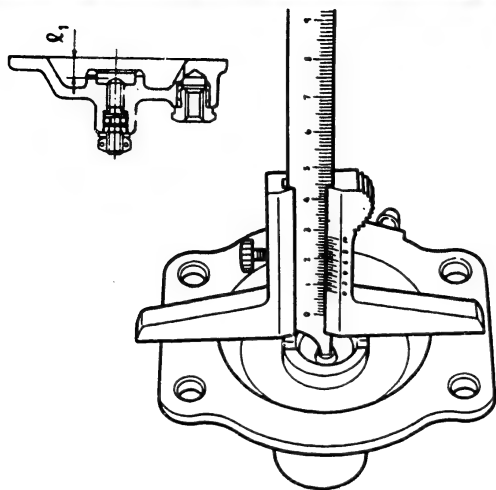

Fig. 35 Measuring the distance ℓ_1
- 6 After removing the cover (67/49) from the governor cover , measure the distance (ℓ_1) between the tip of the stopper bolt and the inside face of the cover. (Fig. 35)